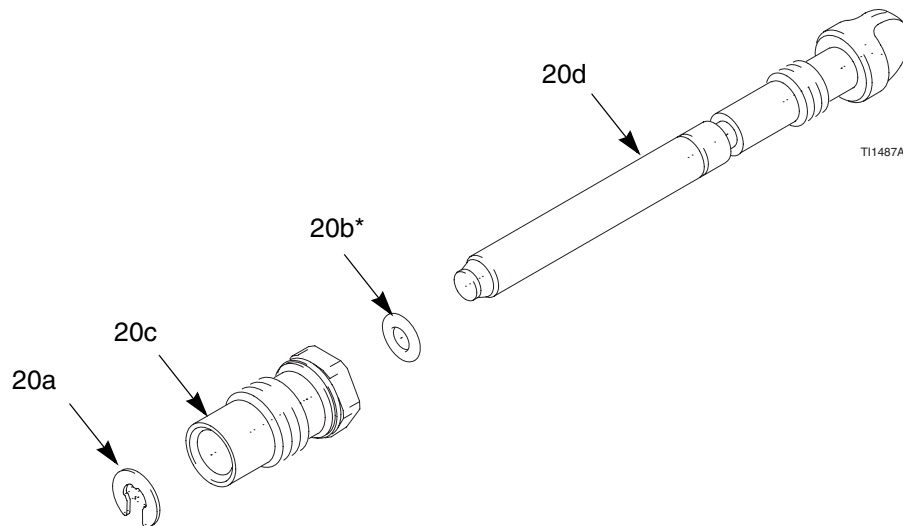

Fig. 31. Fan Air Adjustment Valve
2. Place a wrench on the flats of the valve assembly (20) and unscrew it from the handle (17). You may replace the valve as an assembly (go to step 9) or as individual parts (steps 3-9).
3. Remove the retaining ring (20a). See FIG. 31..
7. When reassembling the fan air valve (20), lightly lubricate the valve threads and screw the stem (20d) fully into the housing (20c) until bottomed. Install the o-ring (20b*), lubricate, and unscrew the valve stem until the o-ring enters the housing.
9. Screw the valve assembly (20) into the gun handle, using a wrench on the flats of the housing. Torque to 15-25 in-lb (1.7-2.8 N•m).